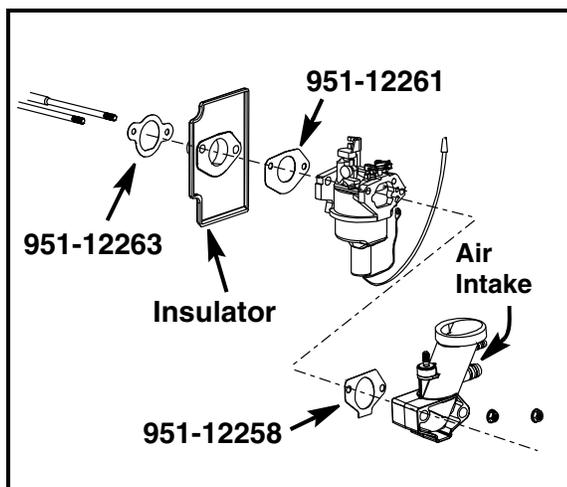

FIGURE 9
19. Install a new gasket, 951-12263, between the insulator and cylinder head, install the plastic insulator, then a new gasket, 951-12261, between the carburetor and insulator. See Figure 9.
21. Install a new gasket, 951-12258, between the air intake manifold and the carburetor. Install the air intake manifold onto the mounting studs. See Figure 9.